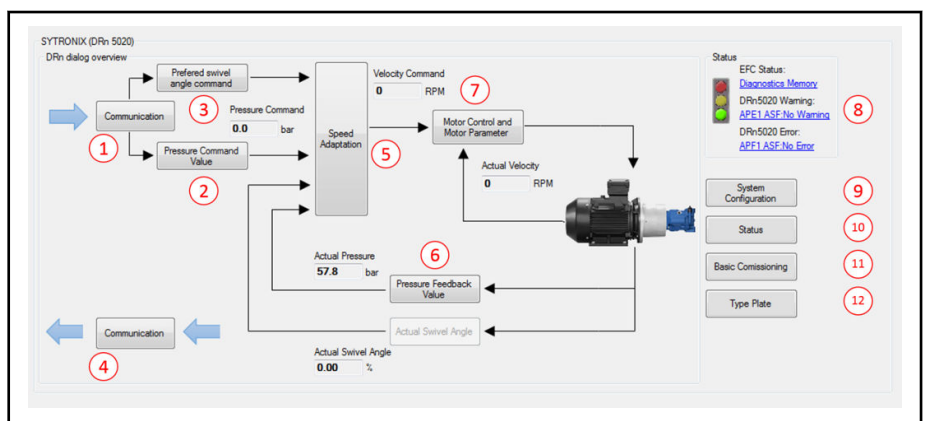

Fig. 7-3: Sytronix DRn5020 dialog
Input and Output can be delivered through communication bus, digital inputs or analog inputs. At this step following the link the user can set Master Communication Interface. For more communication parameters, go to communication dialog ① and ④ (See fig. 7-3 "Sytronix DRn5020 dialog" on page 59).